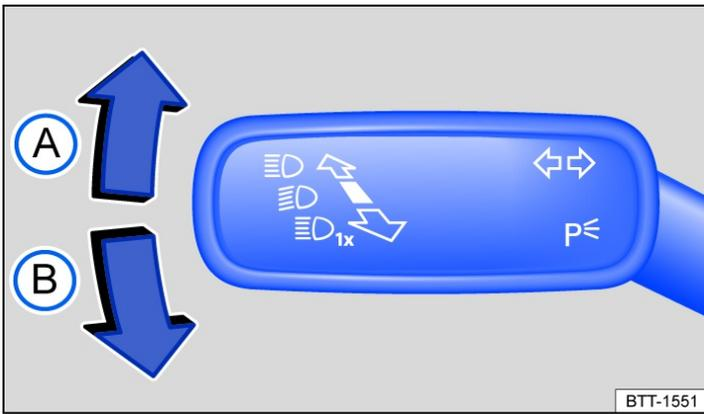

Fig. 1 On the left-hand side of the steering column: turn signal and main beam lever.
- Move the turn signal and main beam lever from the centre position to the following position → *Fig. 1*:
- (A) Right turn signal ➔.
- (B) Left turn signal ➜.